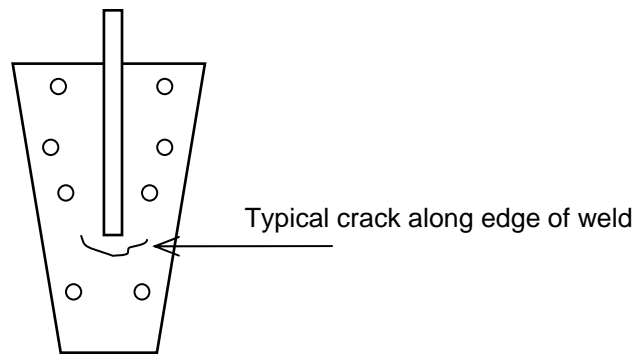

Figure 1
1. Visually inspect the gusset weld area for cracks, see figure 1 for typical crack location. If there is any cracked, lifted or missing paint in the area of the weld, or a crack is suspected, then perform detailed inspection per Part 2 of this AD before further flight. If bracket integrity is assured, no further action is required.